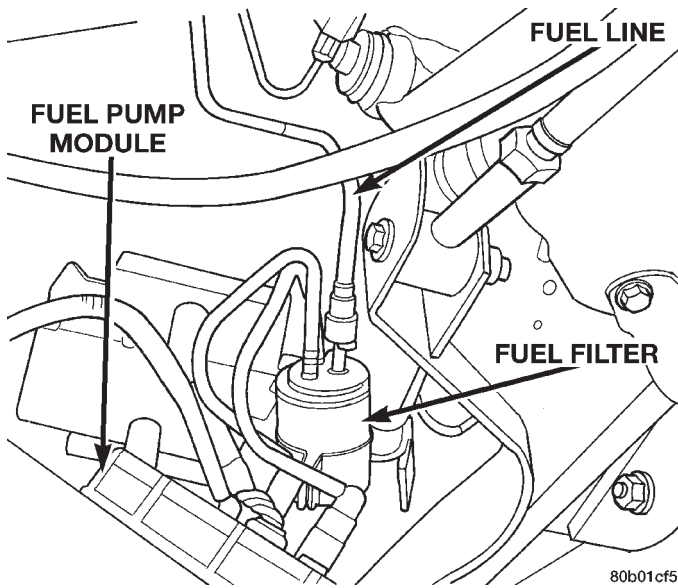

Fig. 22 Fuel Line
- (6) Disconnect fuel line (Fig. 22).